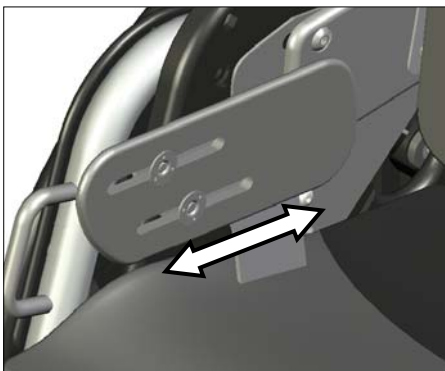

Figure 5: Lateral Plate Adjustment
1. The position of the lateral support plate can be adjusted using a 5/32" hex driver. Loosen the bolts and adjust to the desired position. Tighten the bolts (**Fig. 5**).